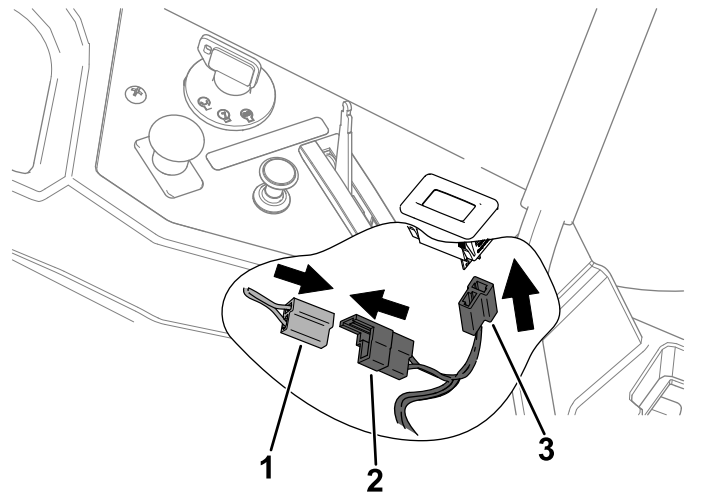

Figure 8
3. Connect the hour meter "out" connector from the kit wire harness to the hour meter connector from the machine wire harness (Figure 8).